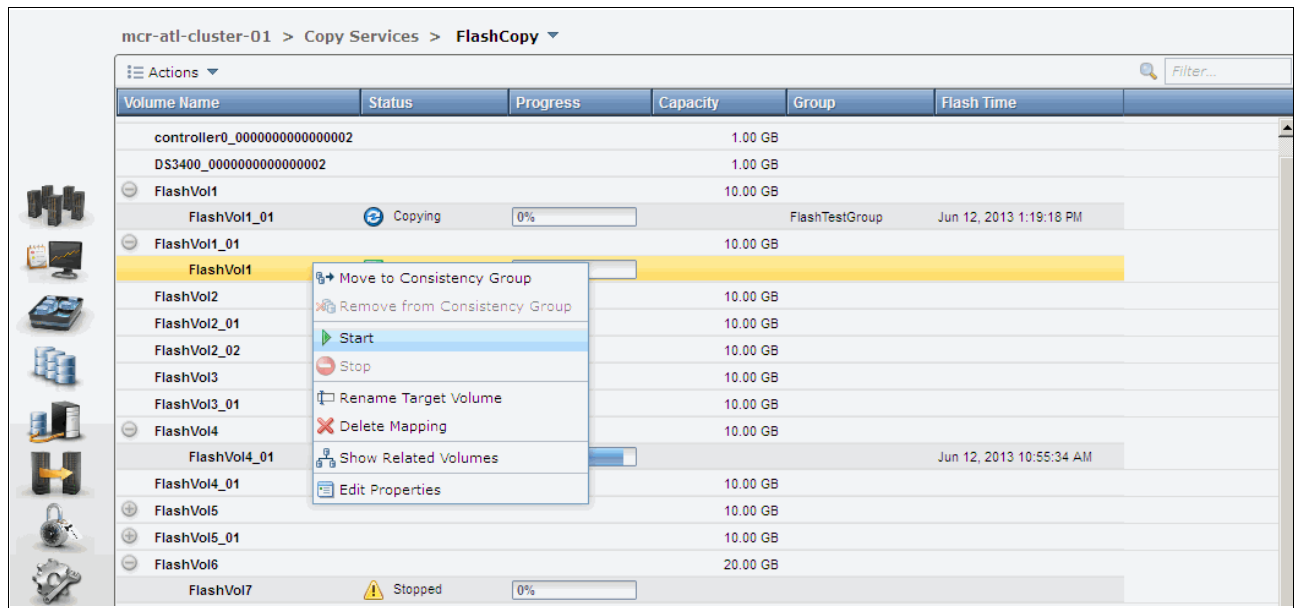

Figure 10-51 Starting the reverse mapping
- To restore the original source volume FlashVol1 with the snapshot we took (FlashVol1_01), we select the new mapping and right-click to open the Actions menu, as shown in Figure 10-51.